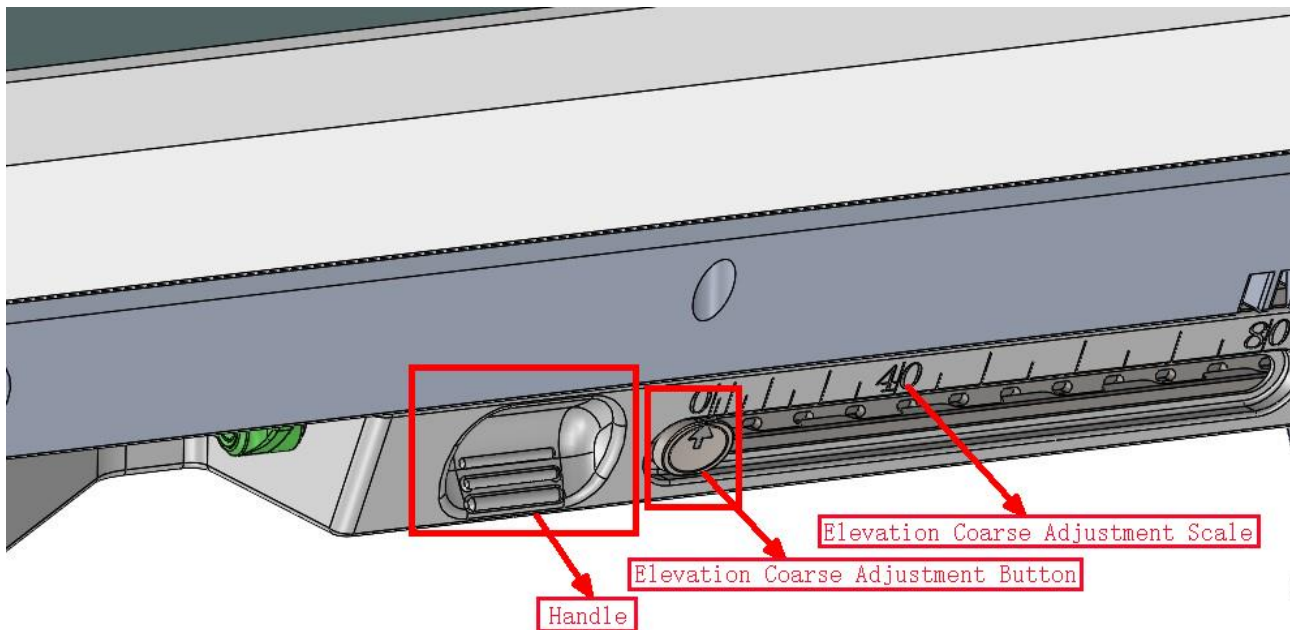
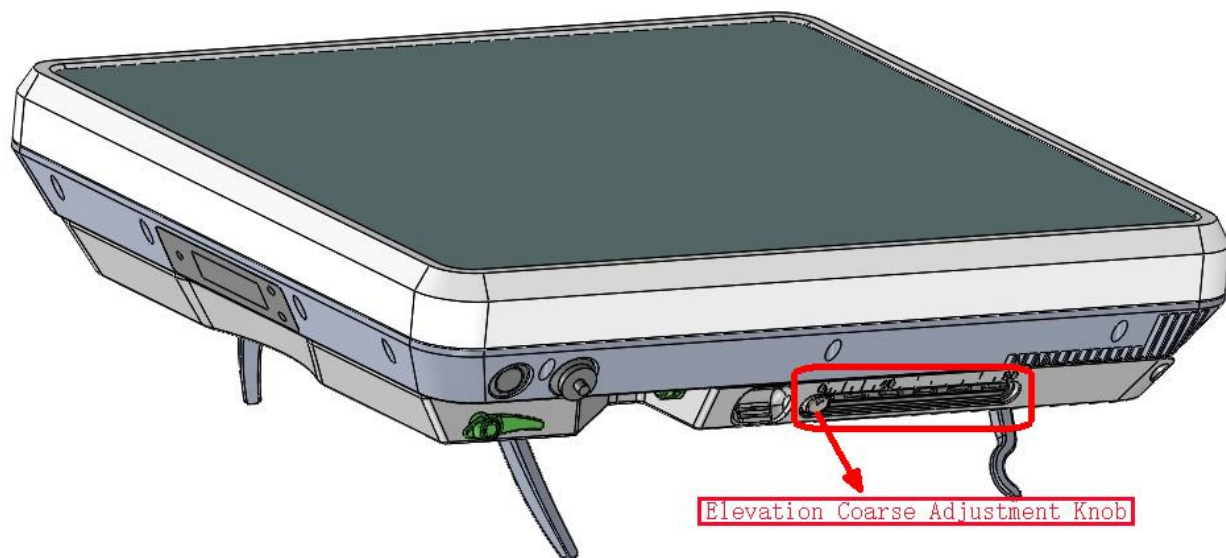

Figure 8-2-5 Elevation Coarse Adjustment Knob and Scale
Figure 8-2-6 Terminal panel is closely fit to the Base
6. Elevation roughly adjustment reset: Hold the Terminal panel with the left hand, and press the elevation roughly adjustment button inward with the right hand. When the button slides downward, hold the Terminal panel with the left hand and gently move downward towards the base until the button returns to the 0 position, and the Terminal panel is closely connected with the base, as shown in Figure 8-2-5 and Figure 8-2-6.